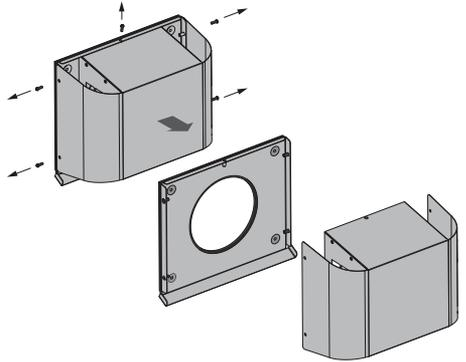

Figure 10
10. Disassemble the exterior-mounted hood to enable access to the fastening holes. Remove 5 screws and take off the front part of the exterior-mounted hood (Figure 10).